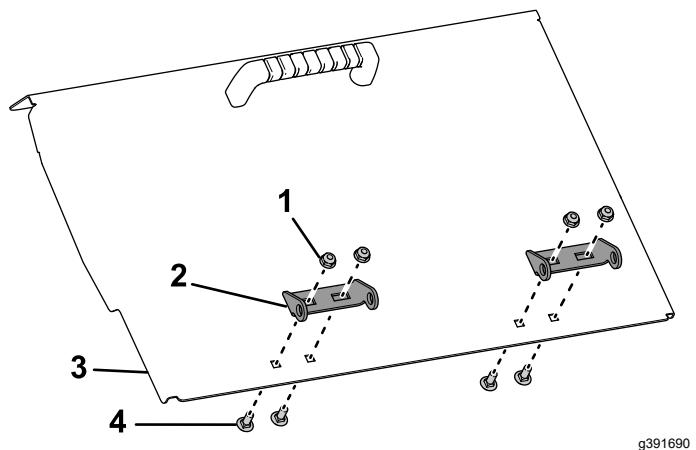

**Figure 6**
5. Remove the 4 screws from the legs of the twin spinner. With the help of a partner, lift the twin spinner and remove the packing studs and packing foam (Figure 6).